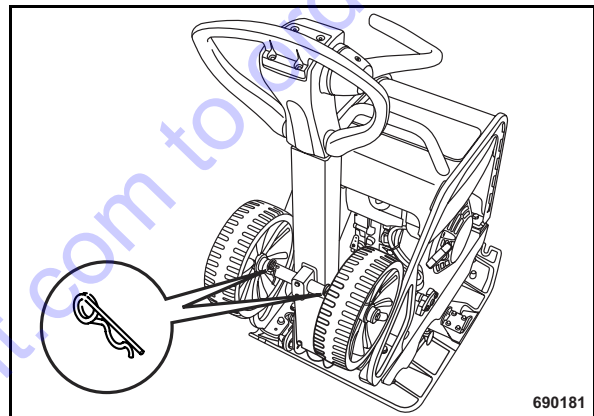

Fig. 30
- Remove the spring cotter (Fig. 30) and pull the transport wheels out of the bracket on the steering rod.